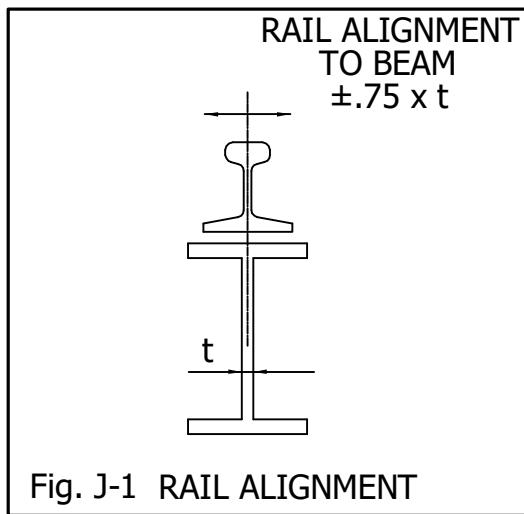

Fig. J-1 RAIL ALIGNMENT
- Crane rails shall be aligned as shown in Figure J-1. Bearing pads under rails are highly recommended to reduce vibration and noise.